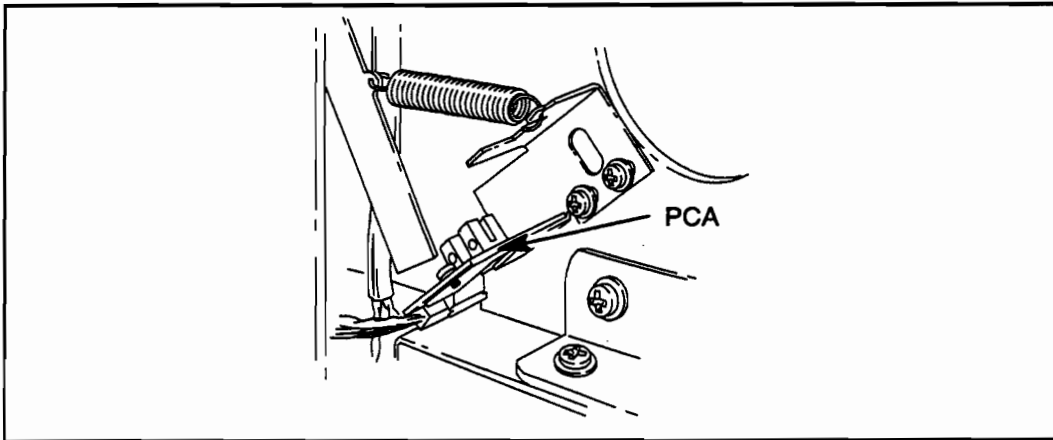

Figure 6-62. SSW5 and SSW6 Removal
1. Switch the plotter OFF (O) and disconnect the ac power cord and interface cable.
3. Disconnect the harness connector at the base of the PCA. See Figure 6-62.